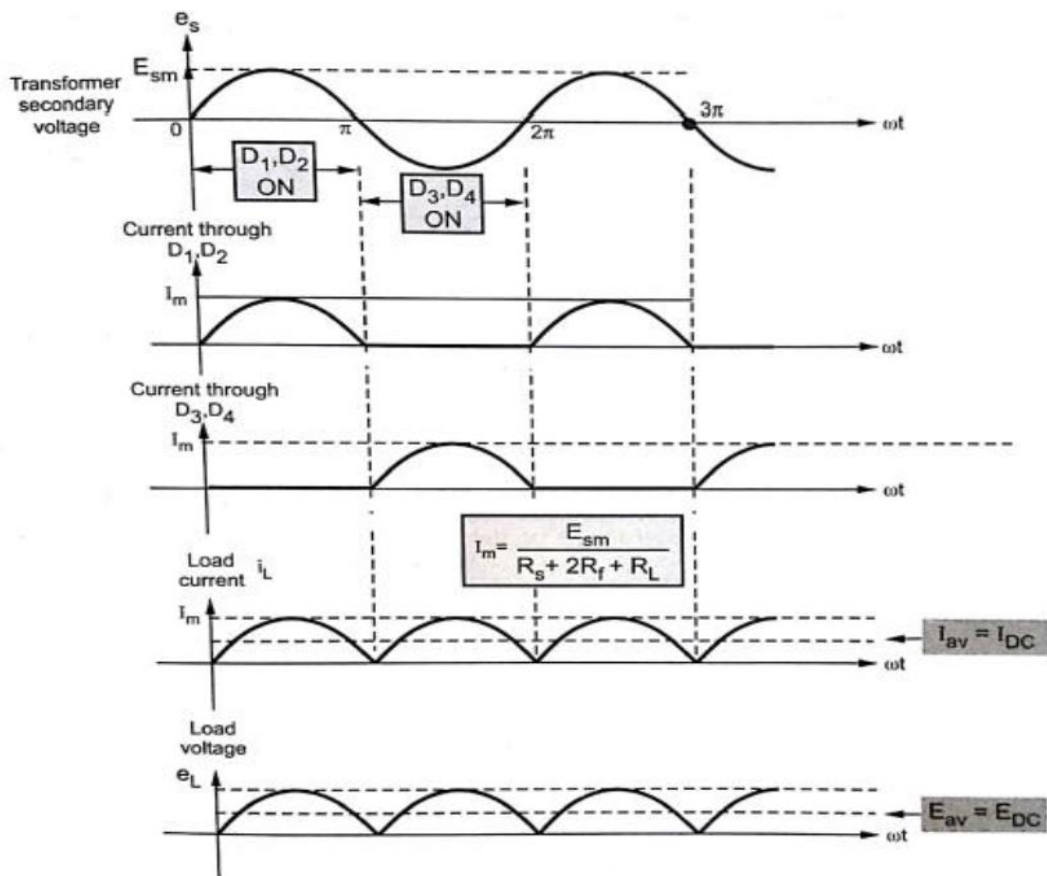

Fig. 2.6 Waveforms of bridge Rectifier
- The two diodes D_1 and D_2 conduct in series with the load and the current flows as shown in Fig. 2.6.
- Now the diodes D₃ and D₄ conduct in series with the load and the current flows as shown in Fig. 2.6.
- The waveforms of load current and voltage remain are shown in figure 2.6.